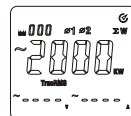

Figure 7-8
- Measurement operation of the 1st and 2nd phase locations is the same as that of three-phase four-wire system. As shown in Figure 7-8, total three-phase active power can be displayed by pressing SELECT key after tripping the 3rd phase location of measurement.